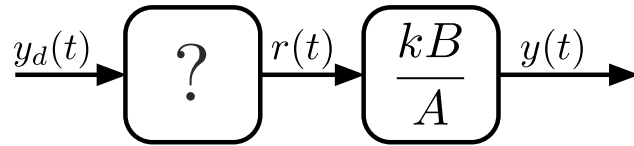

Figure 7.1: A Tracking Problem
Your boss has asked your team to design a command-generation algorithm for a system that can be represented by the block diagram in Figure 7.1. Your goal is to make the system output, $y(t)$, track the desired trajectory, $y_d(t)$, by properly choosing the contents of the $?$ block.
- Your co-worker suggests using plant/model inversion. Using the terms in Figure 7.1, explain his idea and why he might think it would work.